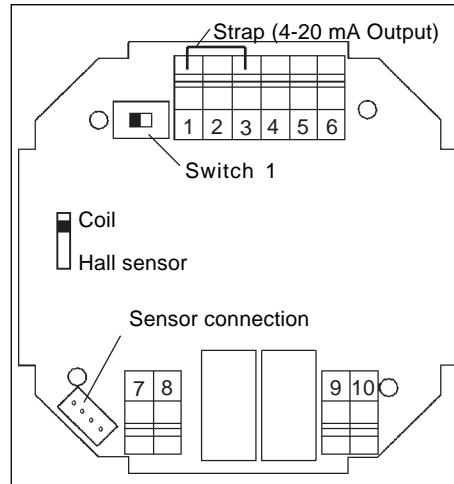
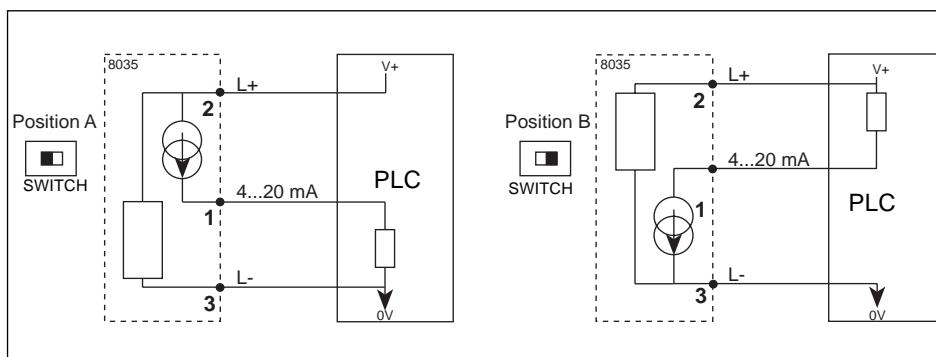

Fig. 3.6 Pin assignment SE35 with relays
Fig. 3.7 SE35 with relays, 4-20 mA output connection to a PLC
Ensure the electrical wiring via 2 cable glands. Remove cover, pull cable through PG 13.5 and wire according to following pin assignment (fig. 3.6):
**PLC-connection:** Depending on the PLC-version, set the switch 1 on the circuit board to position A or B (fig. 3.6 and fig. 3.7).
**4-20 mA Output:** If the 4-20 mA current output is used, remove the strap (1-3) (see fig. 3.6).
**Warning:** If the current output 4...20 mA is not used: set the switch 1 in position A (fig. 3.7) and the strap between 1-3 (fig. 3.6).